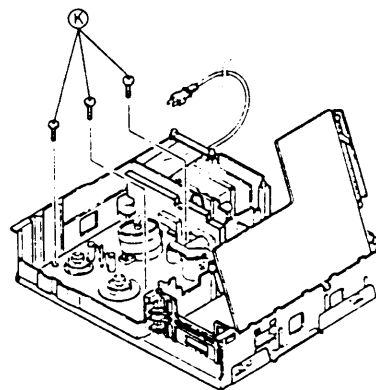

Fig. 1-1-6 Main deck
2. Refer to Fig. 1-1-6 and take out 3 screws (K).